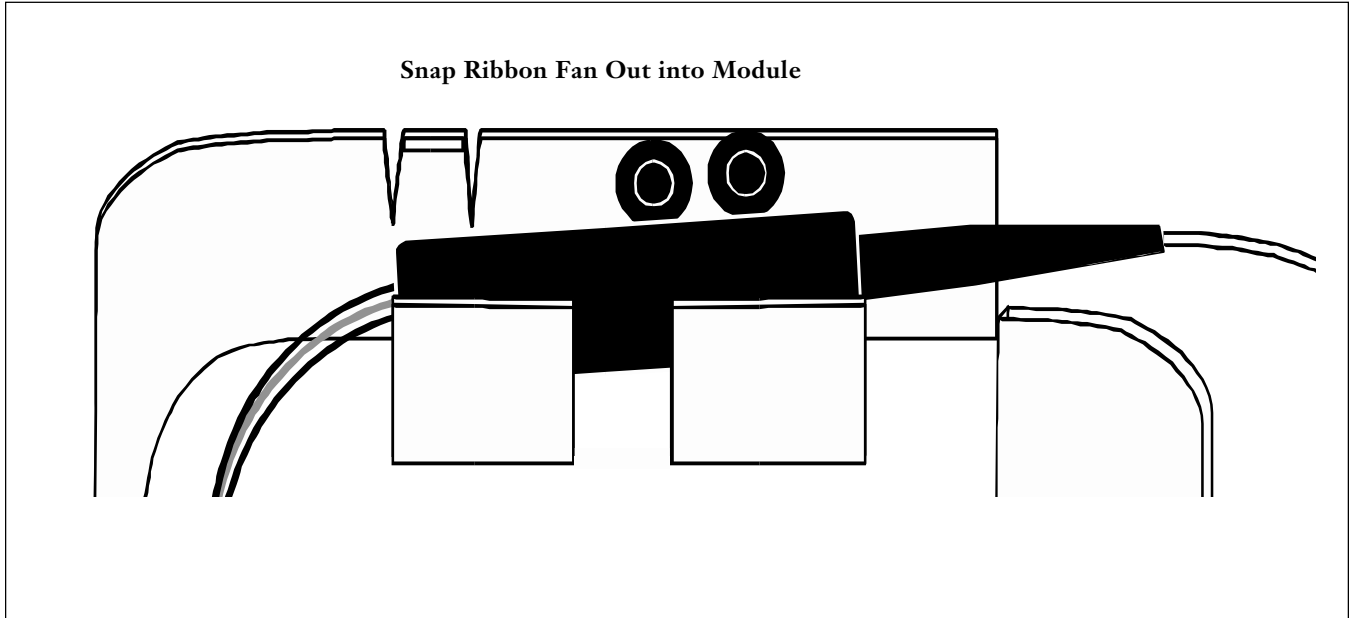

Figure 4
6.1 The 12-Fiber Ribbon Fan-Out Assembly is installed in the module as illustrated in Figure 4.